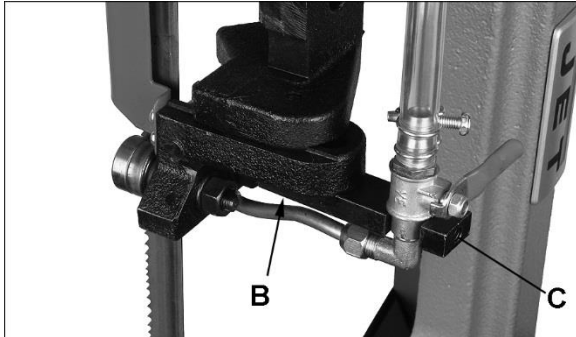

Figure 8-3: upper blade guide rotation (712D only)
- 4) Repeat above step for top blade guide bracket. NOTE: Loosen set screw (C, Figure 8-3) and slide coolant valve assembly out of slot to access screw (B). When adjustment is complete, reinstall coolant valve assembly and tighten set screw (C).